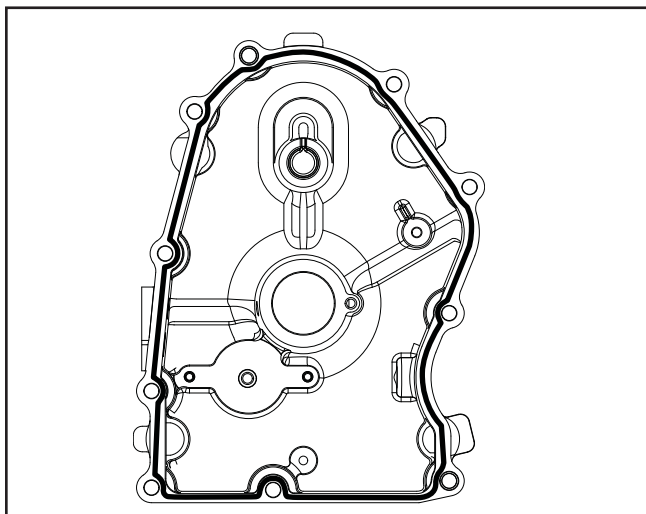

Figure 10-25. Oil Pan Sealant Pattern.
3. Apply a 1.5 mm (1/16 in.) bead of Black RTV sealant to the sealing surface of the oil pan. See Figure 10-25 for the sealant pattern. Oil pan must be installed within five minutes of the sealant being applied for proper sealing to occur.